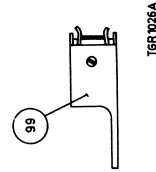

Fig. 4
- Turn the cassette container completely upwards by detaching bracket, item 56.
- Loosen locking screw, item 1.
- Now adjust the capstan by means of screw A until the tape runs smoothly along the tape guides and the erase head and symmetrically with respect to the tape guide of the recording/playback head, see Fig. 4.